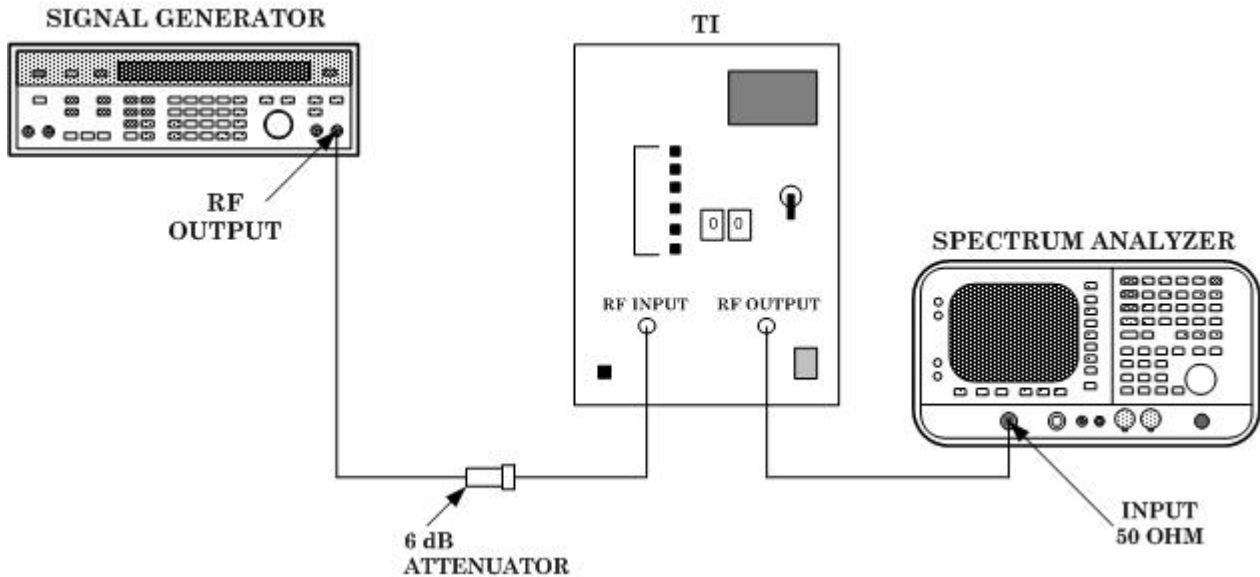

Figure 2. Harmonic rejection.
(1) Connect equipment as shown in figure 2.
(2) Set TI **AUTO/MANUAL/SELECT** switch to the center position, **MANUAL** (manual operation), and set the thumb wheels to select range **01**. Press the **AUTO/MANUAL/SELECT** switch down momentarily to activate the TI range.
(3) Set signal generator to produce a 135 kHz CW output at 0 dBm.
(4) Set spectrum analyzer center frequency to match signal generator output frequency and span to 250 kHz.